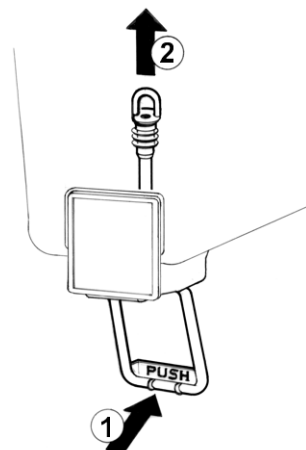

figure 3
take the pinch tube off from its seat (2) (see figure 3).